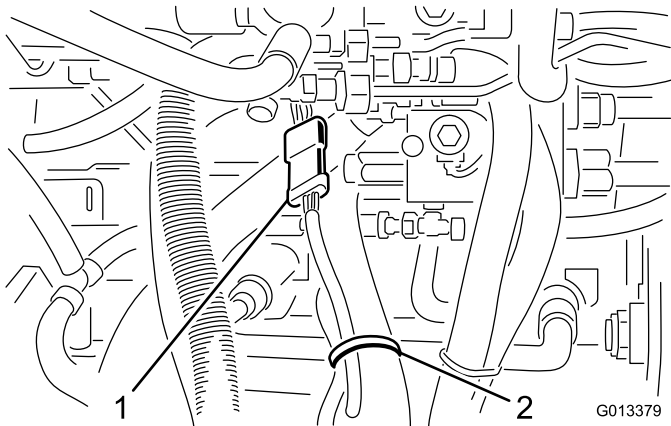

Figure 4
5. Locate and unplug the cutting unit wire harness from the traction unit wire harness (Figure 4). Also, remove any cable ties securing the cutting unit wire harness to any traction unit components.